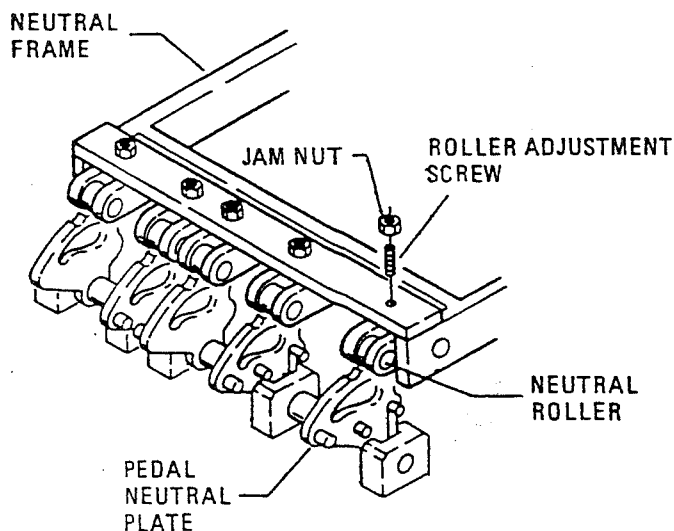

Figure 1-34.
2. It may be necessary to adjust each roller several times in order to get all of the pedals adjusted correctly. See figure 1-34.